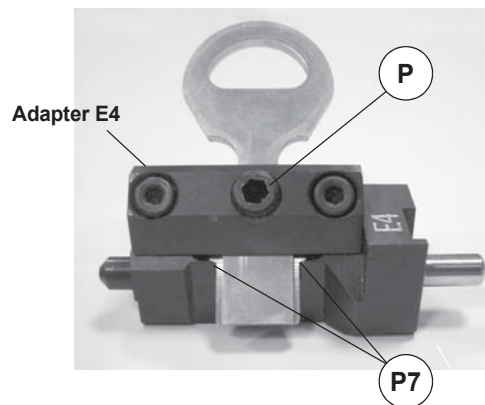

Fig. 46
- 3) Fit the key blank into the adapter **E4** so that the bit stops butt against the **E4** adapter stops (P7) (fig. 46); tighten the screw (P).
- 6) Tighten the knob (T1). Use the T wrench (T4) to tighten the screw (V1) first, then the screw (V2) (fig. 46). Replace the T wrench (T4) into its seat, lower the mobile safety shield and begin the process with START.
- To remove the key at the end of the cutting operation: loosen the grub screw (P) and remove the key, or carry out the operations described above, in reverse order.